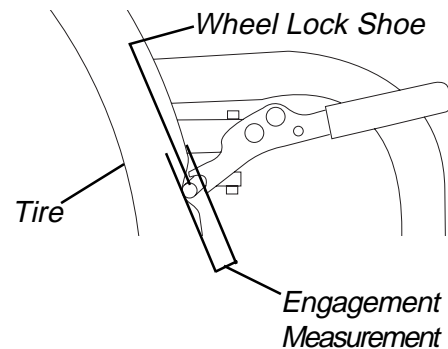

FIGURE 16 - WHEEL LOCK ADJUSTMENT/
REPLACEMENT (FIGURE 16)**
- B. Measure the distance the wheel lock is embedded into the tire as shown in FIGURE 16.